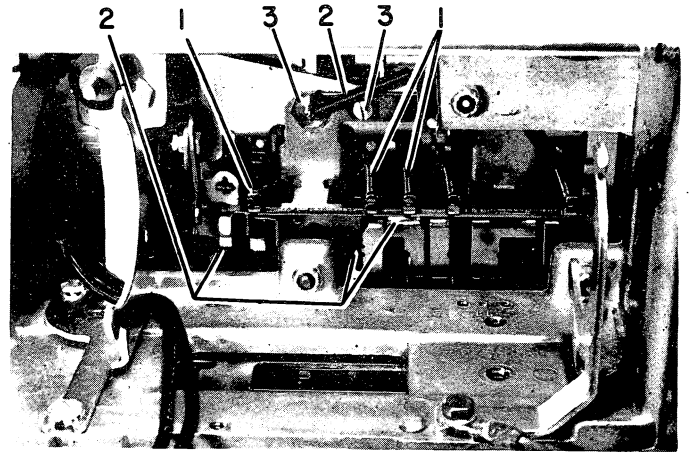

Figure 23. Rotate Selection Differential Removal.
9. Remove the rotate-latch springs (#1, Figure 23).
10. Pull out the rotate links (#2, Figure 23).
11. Remove the check-latch spring (#3, Figure 23).
12. Remove the guide-bracket mounting stud and screw (#4, Figure 23).